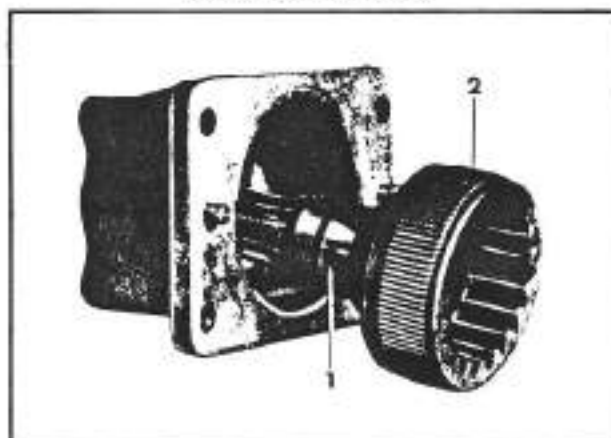

Fig. 3-49. Removal of the power take-off reduction gear drive shaft (tractor Mod. 76)
- b. Extract the pinion shaft assembly (1; fig. 3-49).
Pay great attention to the extraction of the pinion shaft (1; fig. 3-49) from the box so that no needles are lost or damaged. The exact (2; fig. 3-49) number of needles is 108.